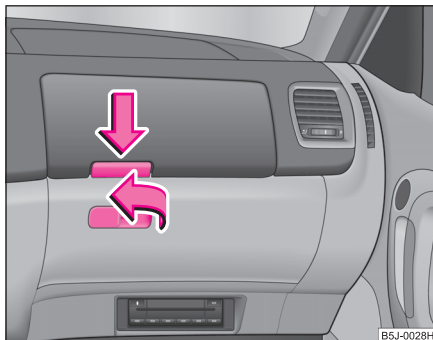

Fig. 69 Dash panel:
- Pull or press the handle of the lid in the direction of arrow ⇒ **fig. 69** and fold open the lid.